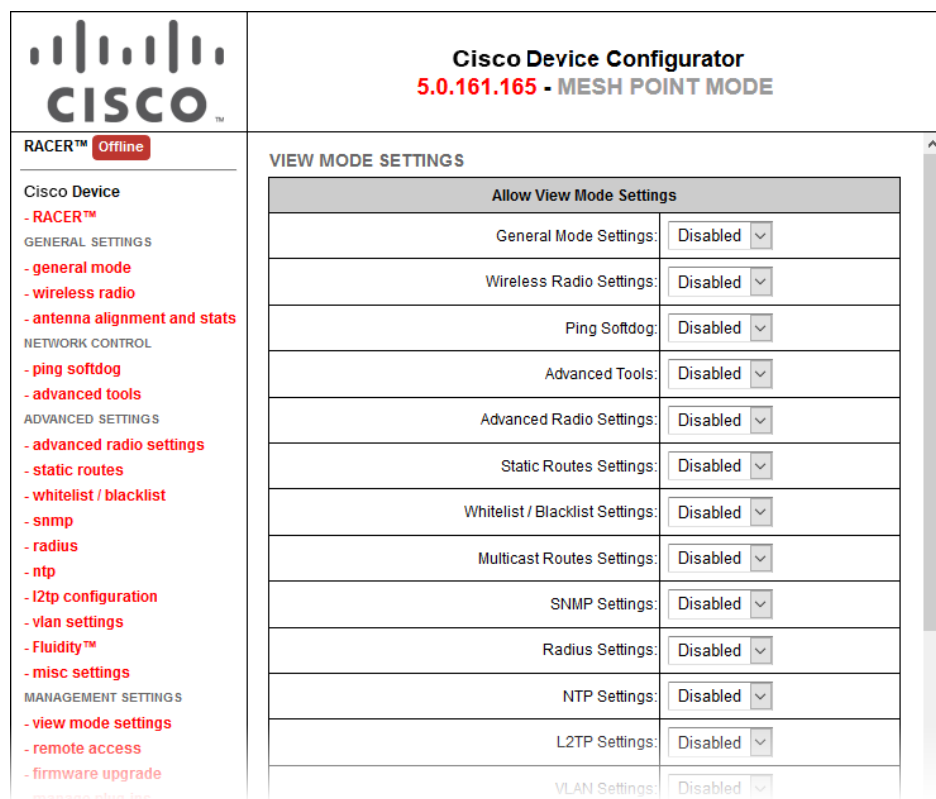

Figure 53. Configurator GUI (VIEW MODE SETTINGS dialog)
2. Click the **-view mode settings** link under **MANAGEMENT SETTINGS** in the left-hand settings menu (Figure 53 \(page 125\)).